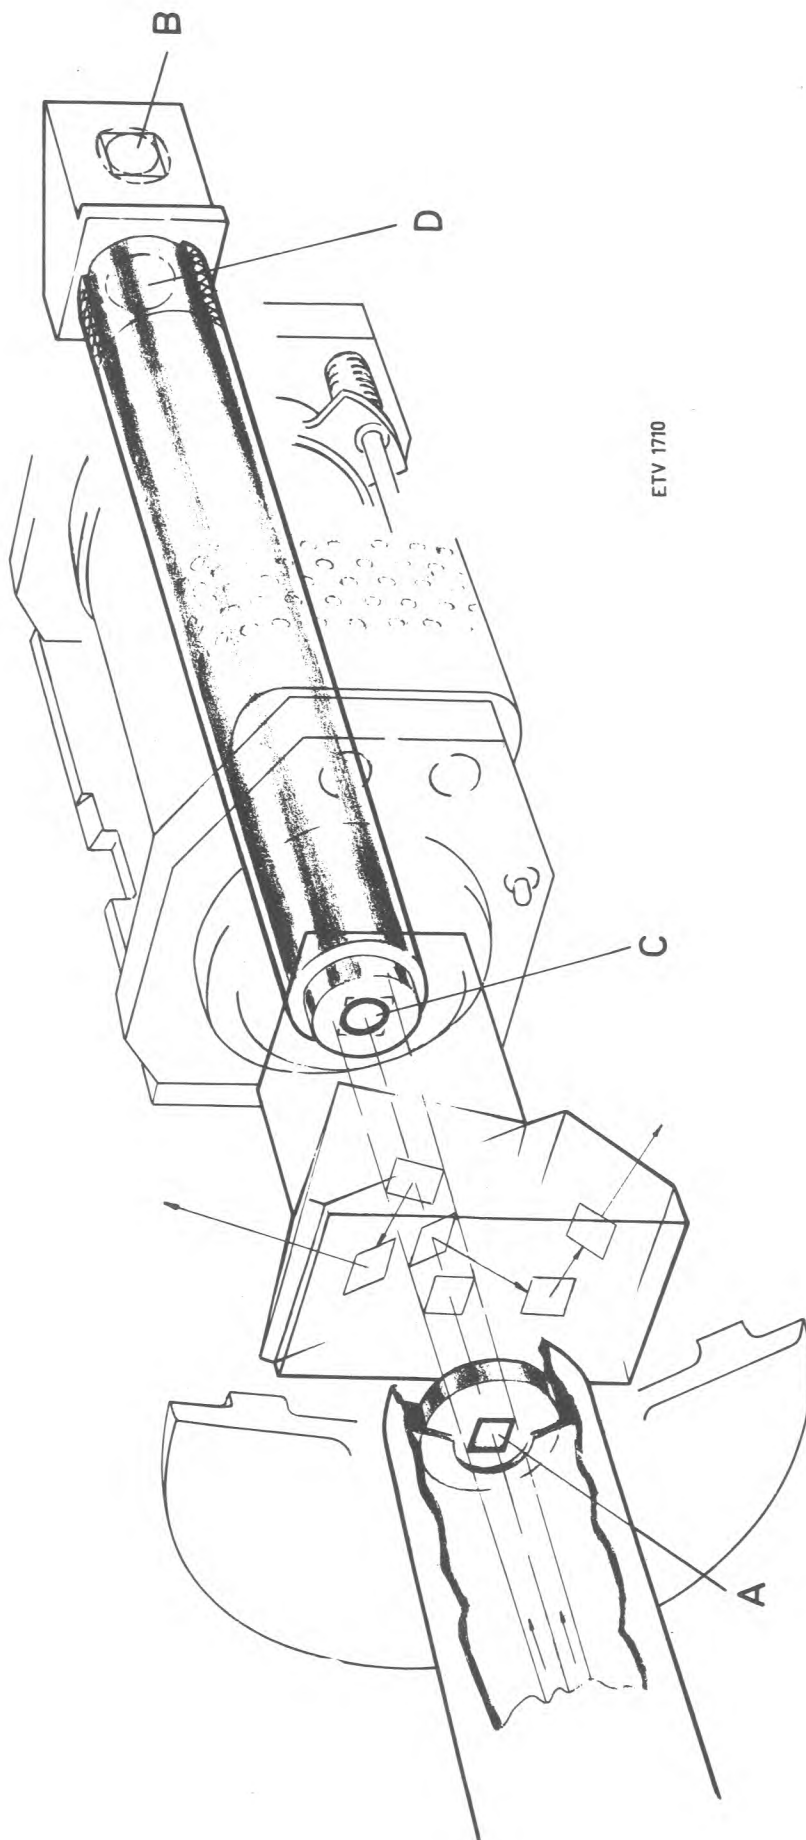

Fig. 1
5. Fixer la bride (A, photo 4) avec le projecteur (B, photo 4) de la caisse d'alignement dans l'ouverture de lentille (photo 6), de sorte que le carré (A, fig. 1) se trouve en position horizontale.
- . The system (item 3) can be replaced after loosening both countersunk cheese-head screws.
- . Mind the polarity of the new system. The small hole between the four larger holes at the back of the headphones should always point in the direction of the connection flex (see Fig. 1).
- . Disconnect both systems when replacing the flex and remove the two clamping pieces (item 2) of the head bracket, the flex can be pulled out of the P. V. C. -tube.
- . The earpiece (item 4) can be unscrewed for replacement or cleaning purposes.